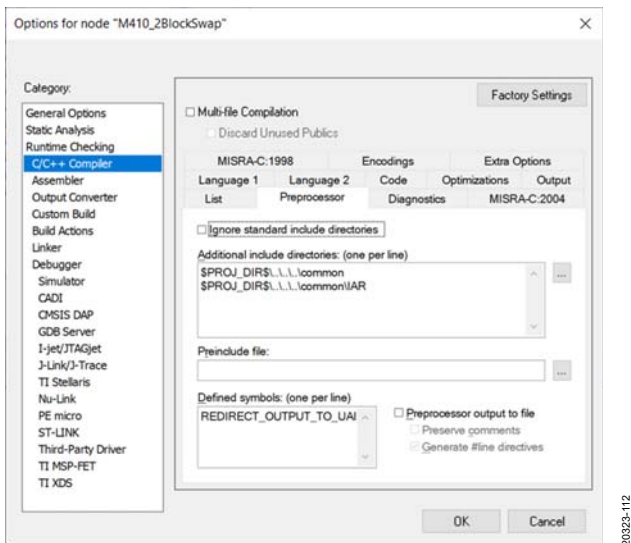

Figure 12. C/C++ Compiler Setting
- Next, click **C/C++ Compiler**, and check that the directories match those shown in the **Additional include directories** box (see Figure 12).